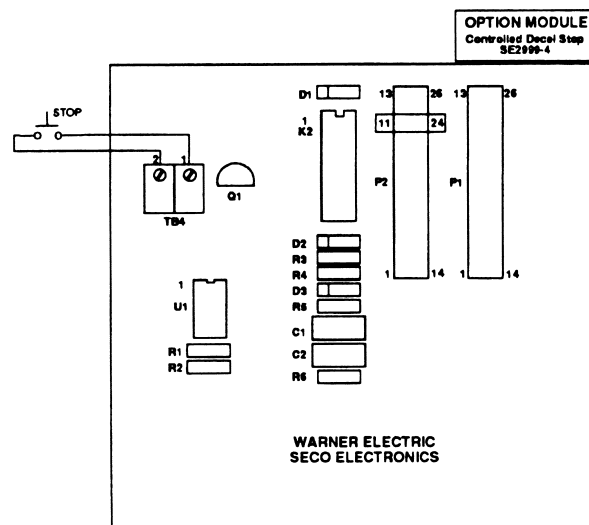

Figure. 6-3
6.9 CONTROLLED DECELERATION STOP (-4/SE2999-4) See Figure 6-3